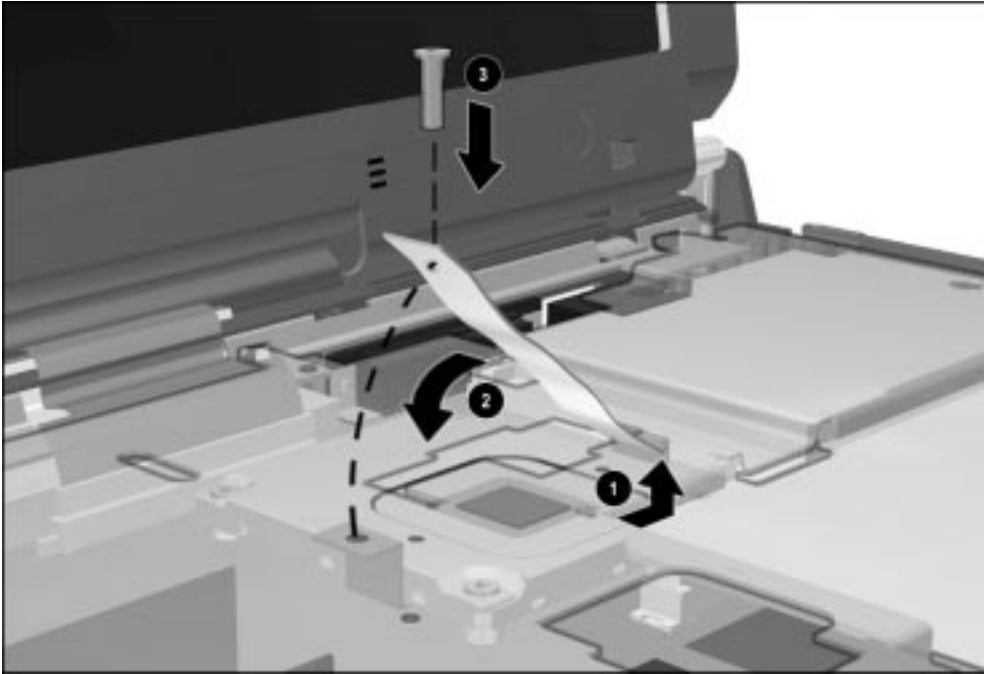

Figure 5-24. Installing the Heatpipe Mount Leaf Spring
2. Insert the notched end of the heatpipe mount leaf spring ❶ into the slot on the thermal catch bracket on the processor (Figure 5-24).
3. Swing down the left side of the heatpipe mount leaf spring ❷.
4. Install the screw that secures the heatpipe mount leaf spring ❸.